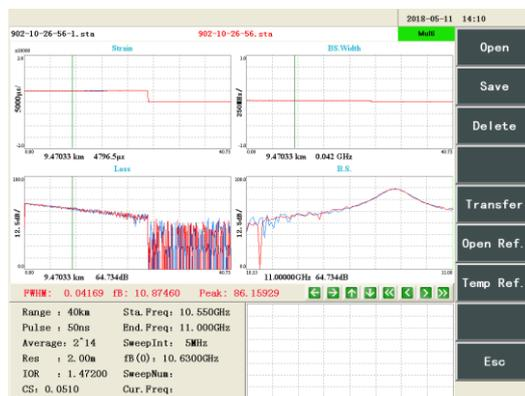

Figure 8-24 Image of reference files
Step 3: As shown in Figure 8-24, the reference curve interface is displayed. The test data and the reference data are drawn in different colors. The blue curve is the test data, and the red curve is the reference file data.